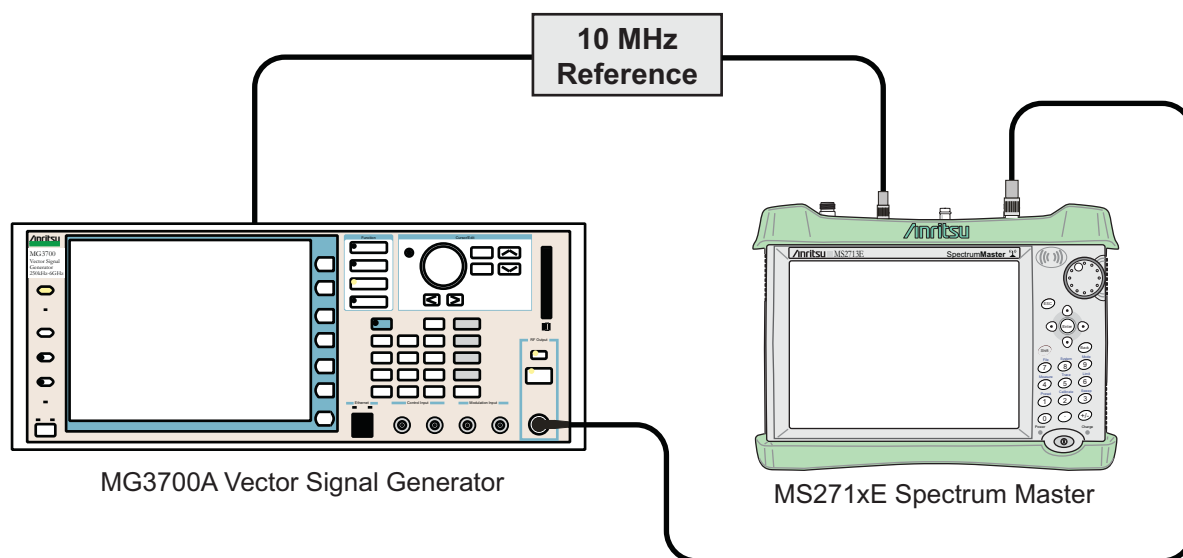

Figure 3-22. Mobile WiMAX Residual EVM and Frequency Error Test Setup
1. Connect the equipment as shown in Figure 3-22.